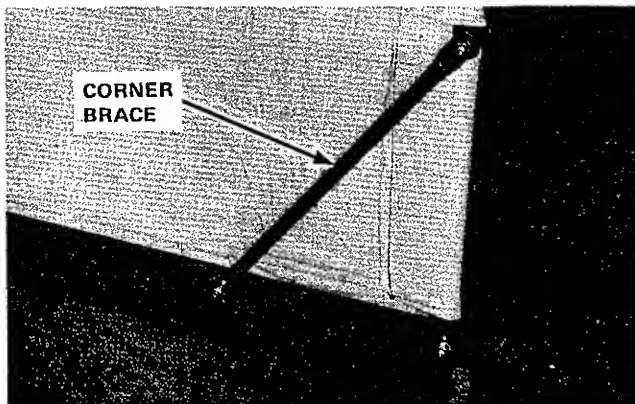

FIGURE 9
3. Secure the four corner braces with the hardware attached. (See Figure 9).